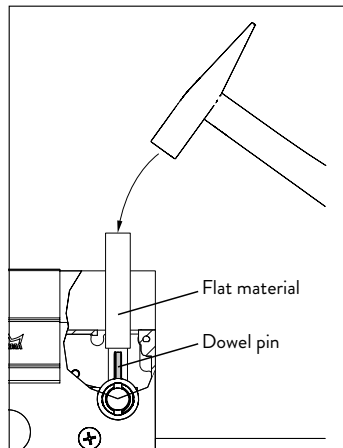

Abb. 15 Hammer in the dowel pin
4. To that end, place the dowel pin in its position (Abb. 15).
5. Hammer in the pin flush into the base lock with some flat material and a hammer (Abb. 15).